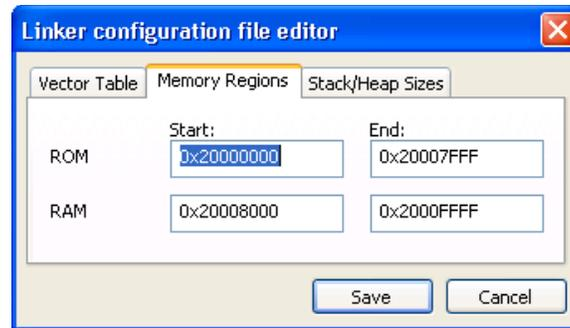

Figure 22 · The Linker Configuration File Editor – Memory Regions Tab
- Click **Edit** to display the **Linker configuration file editor**, as shown in Figure 22 . . This window displays the Vector Table, Memory Regions, and Stack/Heap Sizes tabs.